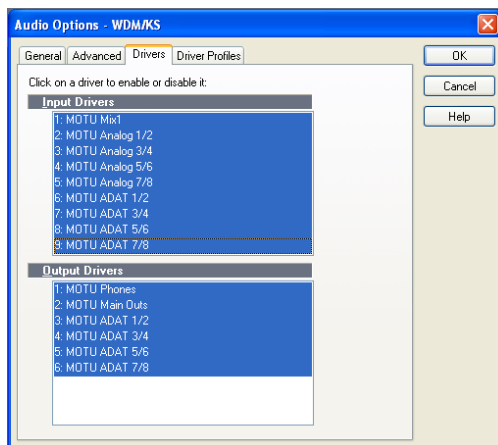

Figure 8-2: Activating the MOTU Audio WDM driver in SONAR by highlighting 8pre inputs and outputs.
- 3 Highlight the 8pre inputs and outputs that you wish to use and unhighlight the ones you don't as shown in Figure 8-2.